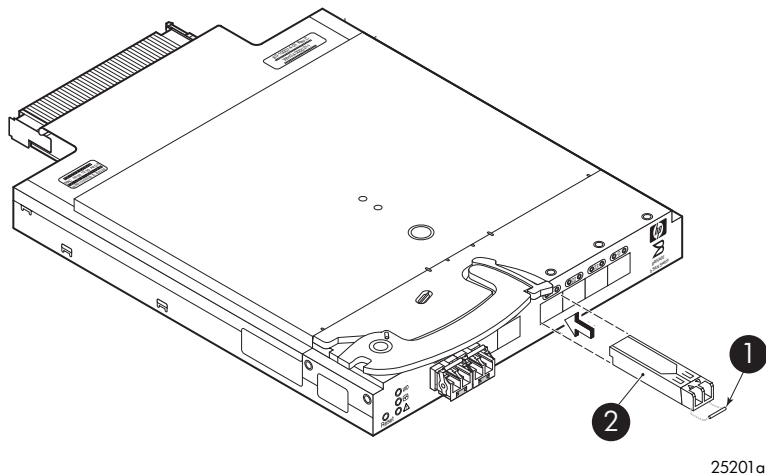

Figure 7 Installing an SFP
2. Orient the SFP with the appropriate port. See Figure 7 and Table 10.